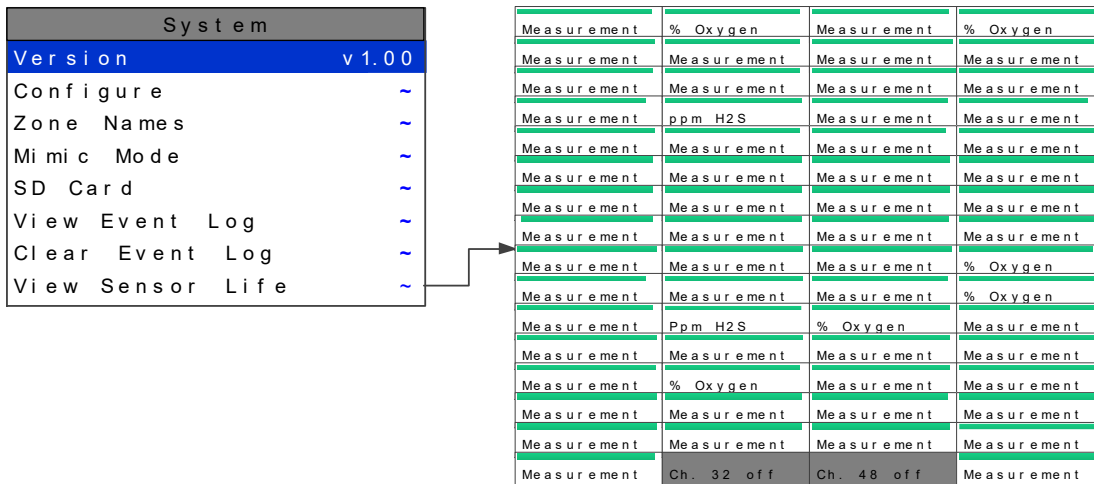

Figure 2-37
**Sensor Life** is available when at least one channel has **Sensor Life** activated in the **Marker menu** (see section 2.4.4.5). The **Sensor Info** screen displays each channel's sensor status as illustrated in Figure 2-37. Channels with **Sensor Life** disabled are indicated by **Ch. # Disabled** below the bar. **Cal Required** indicates no Calibration Marker value has been received by the GM 64.